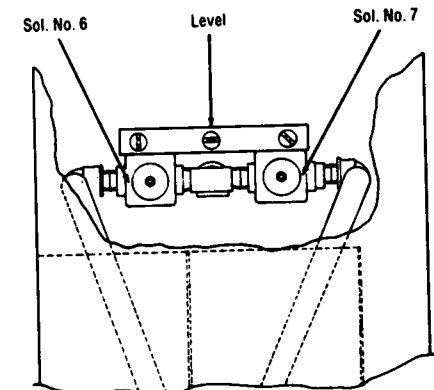

Figure 5-6. LEVELING THE PROCESSOR.
- e. Place level across the side of solenoid valves 6 and 7. See Figure 5-6. Bubble in the level must be between the two black marks. To adjust, loosen clamp 1.